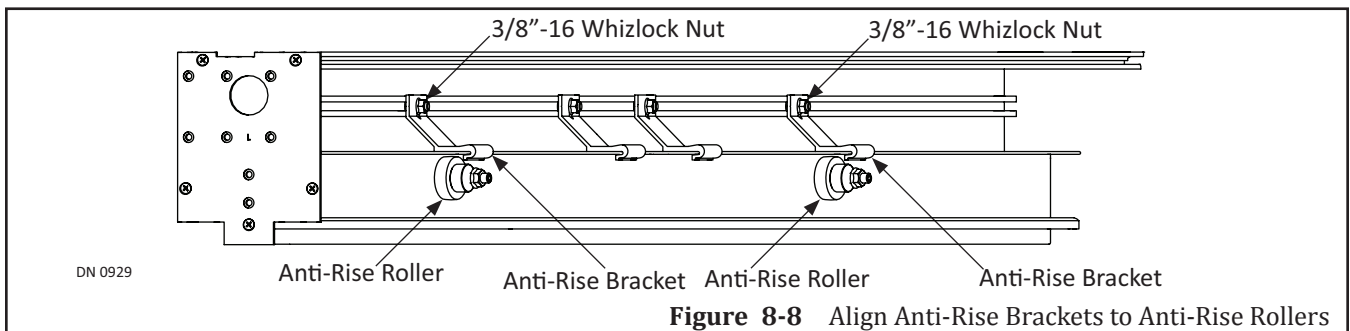

Figure 8-8 Align Anti-Rise Brackets to Anti-Rise Rollers
1. Fully close Slide Door. Ensure each Anti-Rise Bracket is aligned directly above each Anti-Rise Roller. If not, go to the Anti-Rise Bracket and loosen (1) 3/8-16 Whizlock Nut with a 9/16 inch wrench.
2. Slide the Anti-Rise Bracket to the left or right. Retighten screws. Do not overtighten. Please see Figure 8-8.